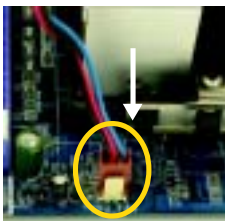

Figure 6.
Step 1-4. Connect the fan power wires to the header on the motherboard as shown in Figure 6.